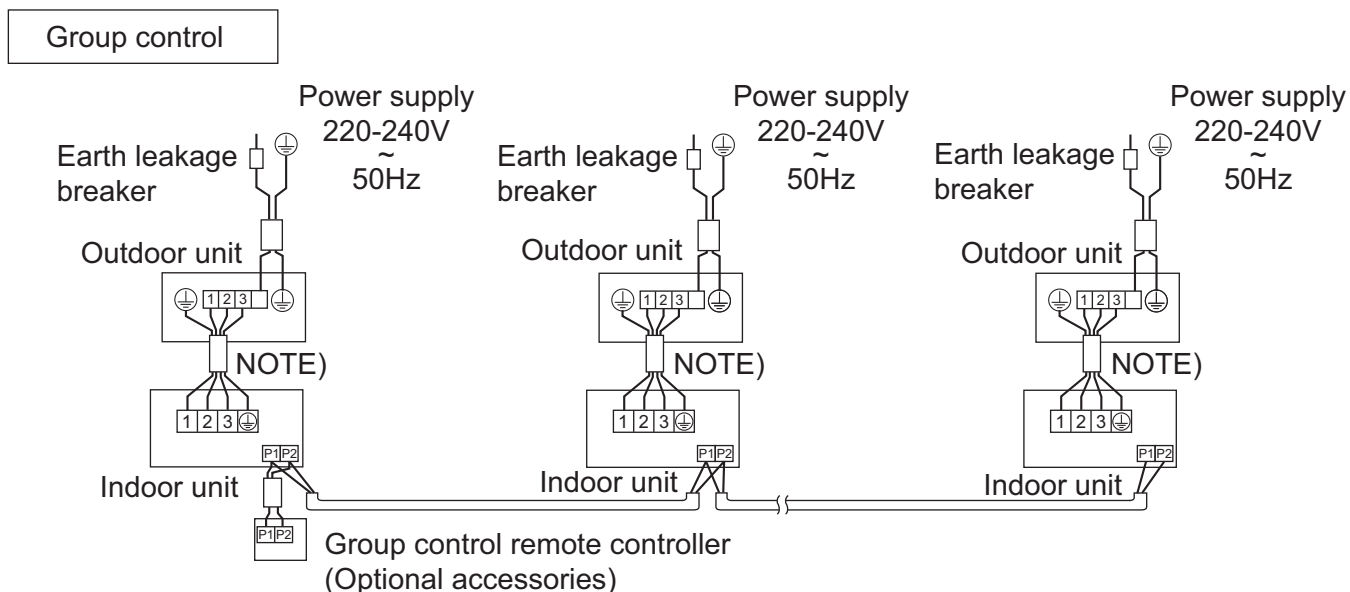

Fig. 42
(All indoor units operate according to the remote controller). (Refer to Fig. 42)
- (1) Remove the control box cover.
- (2) Connect crossover wiring between the terminals (P1, P2) inside the control box for the remote controller. (There is no polarity.) (Refer to Fig. 42 and Table 2)